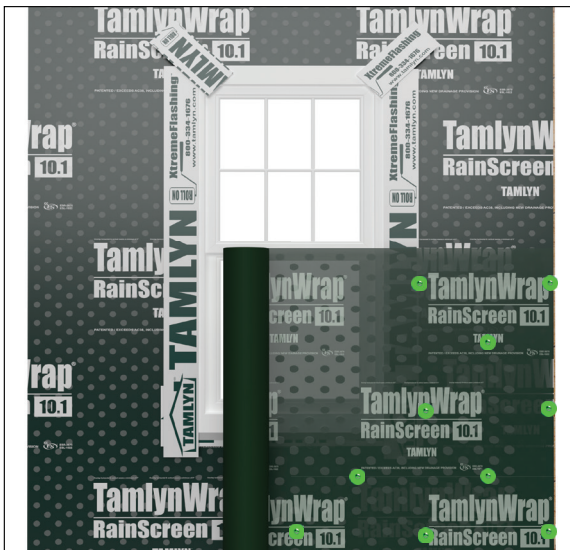

FIG 2:
- Unroll **TamlynWrap® RainScreen 10.1** over existing (WRB) system and window. Fasten using cap fasteners every 3 sq. ft. **(FIG 2)**.